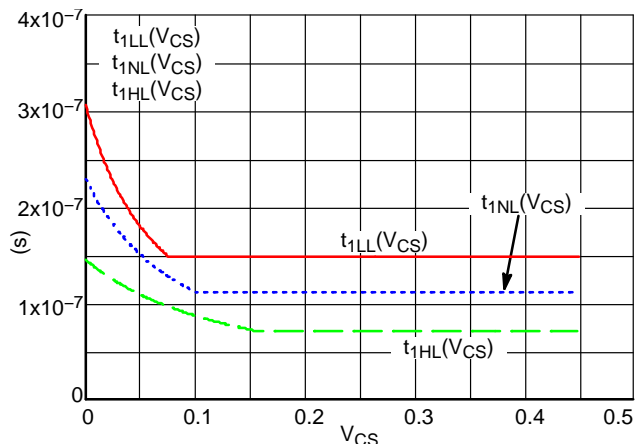

Figure 61. The Dead Time Evolution with Input Voltage and the Sensed Current
0.45 V, we obtain Figure 61 graph for three different input voltages ( $t_{1LL}$  for 36 V,  $t_{1NL}$  for 48 V and  $t_{1HL}$  for 76 V):